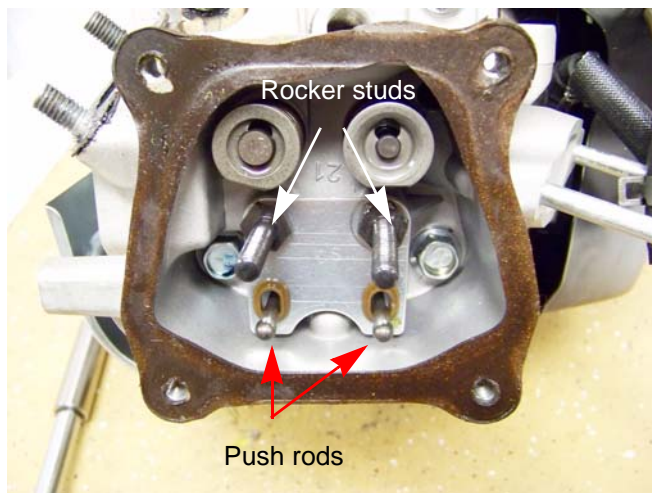

Figure 9.15
6. Remove the rocker arms and push rods. See Figure 9.15.
7. Remove the rocker studs. See Figure 9.15.